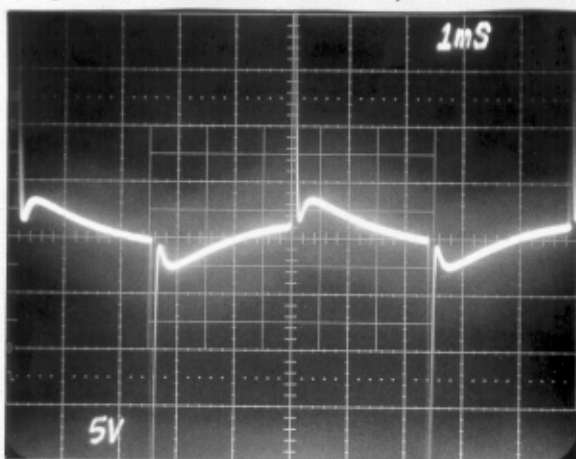
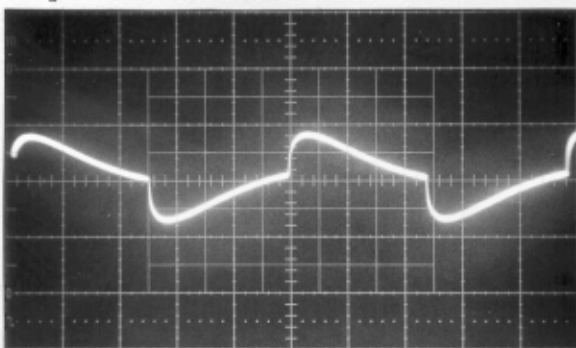

Fig. 2. Treble to 10.
Fig. 3. Treble to 0.
- A) Treble to 10- Fig.2; treble to 0- Fig.3.